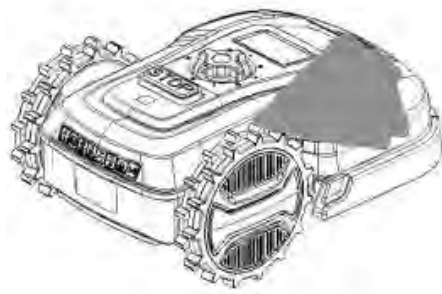

Fig.5-1-1
- Use a low-pressure washer and a soft brush or towel to clean the front part (Fig.5-1-1, Fig.5-1-2).